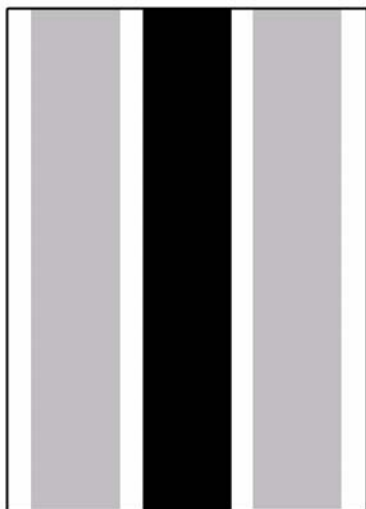

Figure 1 IQA test pattern
7. Example of the IQA test pattern is shown in Figure 1.